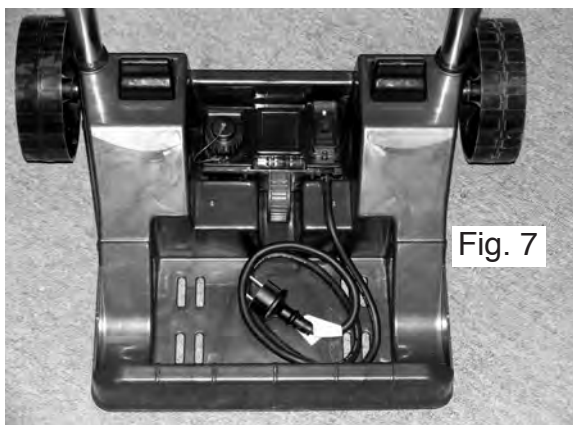

Fig. 7
- Place the transformer into its mounting spot in the base of the caddy as shown in fig 7.